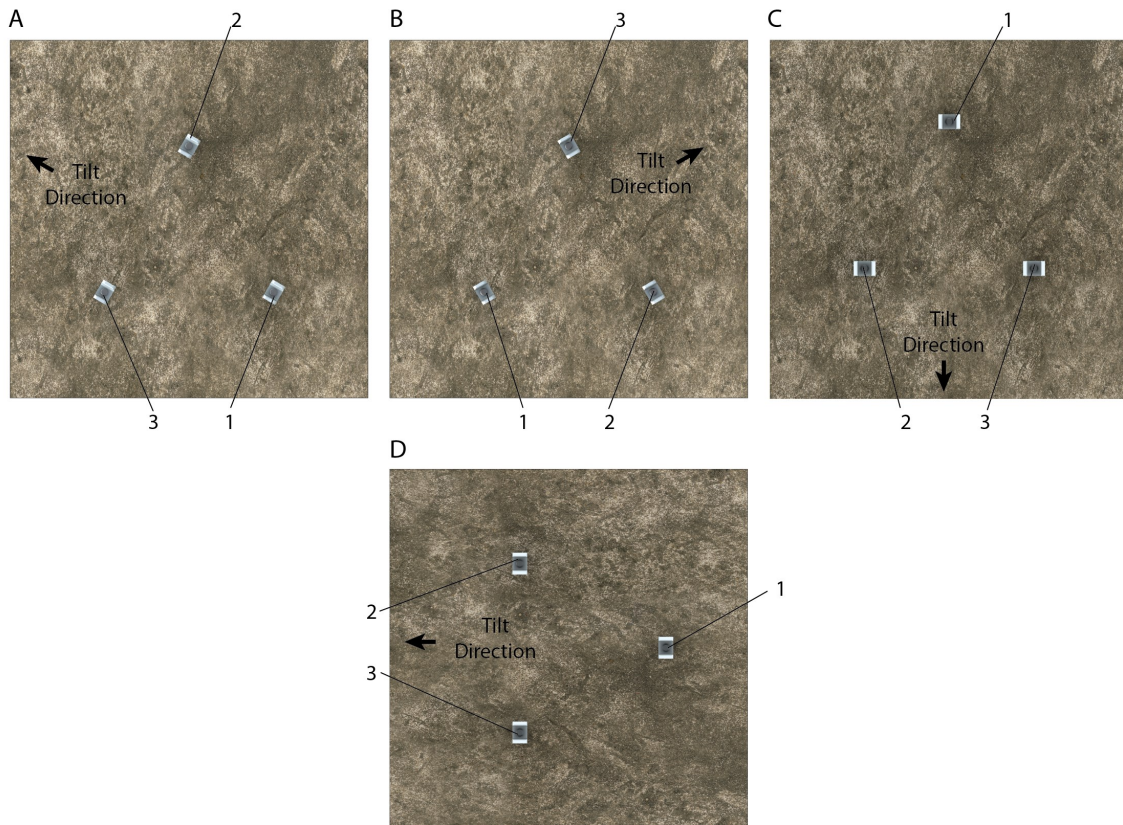

FIGURE 7-7. Mounting feet orientation
4. Align the tower so the openings in the mounting feet are angled in one of the positions shown in FIGURE 7-7 (p. 15). Images A and B show the recommended placement when a solar panel is to be mounted to the tower. This positioning allows a solar panel to be firmly attached to two tower legs while providing easy access to sensors at the top of the tower. Image C shows the tower section positioned to allow the tower to tilt toward the equator. Image D is used when it is necessary to mount a crossarm running perpendicular to the equator for precision pyranometer measurements.